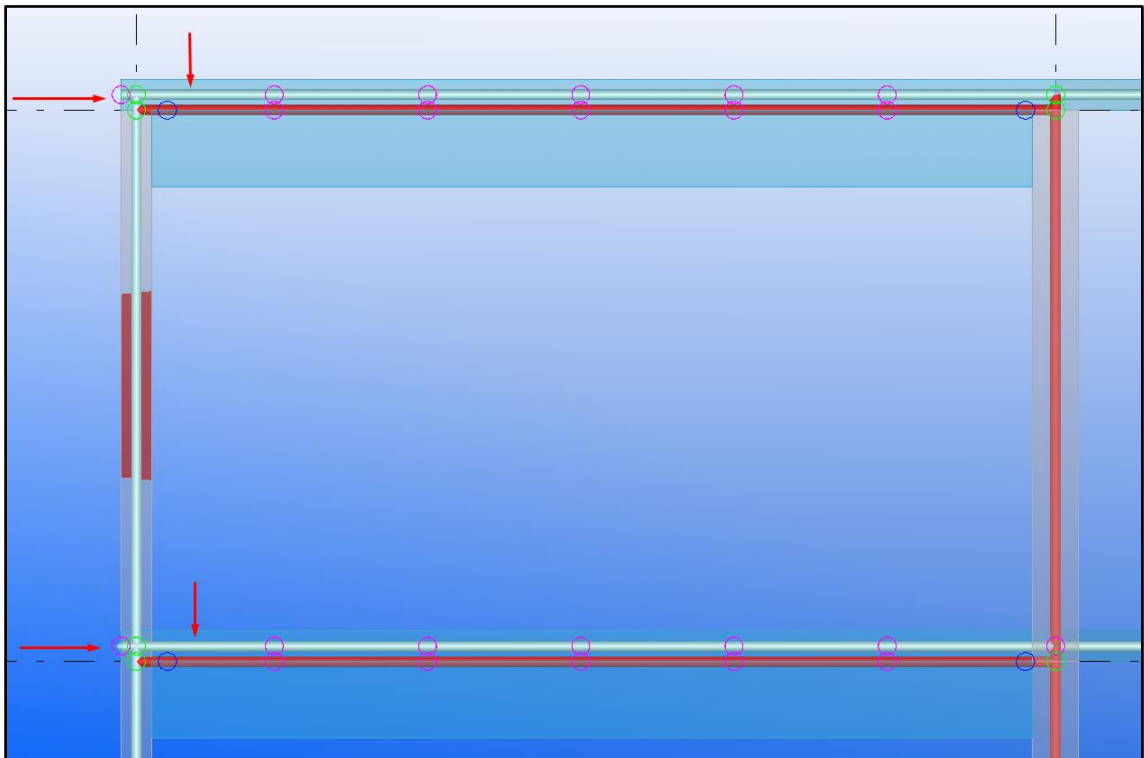

Figure 3-11
- i. Zoom into the disconnected nodes area. It looks like the analysis slabs are not connected with beams underneath, and that they are not well connected to the walls, as shown in Figure 3-11.